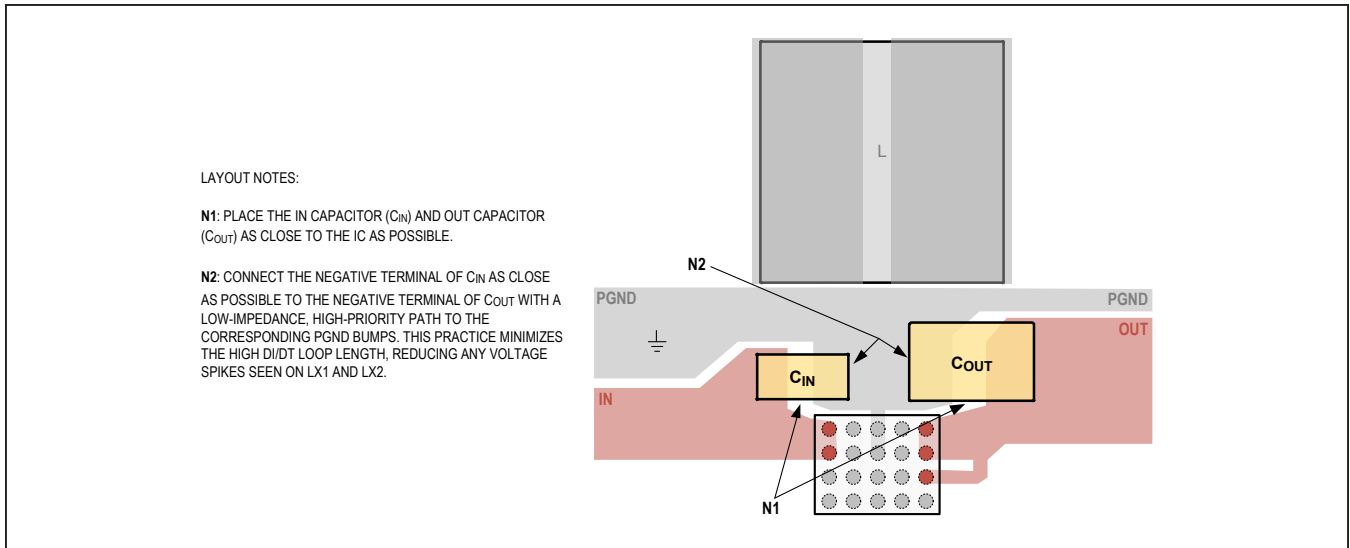

Figure 8. Recommended Capacitor Placement
- 1) Place the input capacitors ( $C_{IN}$ ) and output capacitors ( $C_{OUT}$ ) immediately next to the IN pin and OUT pin, respectively, of the IC. Since the IC operates at a high switching frequency, this placement is critical for minimizing parasitic inductance within the input and output current loops, which can cause high-voltage spikes and may damage the internal switching MOSFETs. See Figure 8 for an illustration.